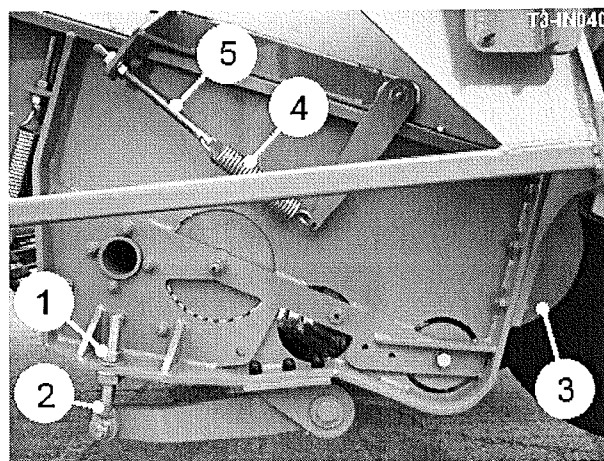

Fig 6
To adjust the angle of the shares loosen the locknuts (item 1, fig 6) on both sides of the machine, and re-position adjuster (item 2, fig 6). Ensure both sides are adjusted evenly by measuring from the tip of the outer shares up to the disc support bridge above. The points of the share should be kept as high as practical whilst still maintaining adequate digging depth. Lowering the points will assist penetration but may increase risk of crop damage. If the soil has been adequately cultivated this should not be necessary. If the pitch is too steep (points lowered) it can greatly increase the loading or bulldozing effect on the share frame, especially when in hard or tough conditions. Regularly check for soil build-up on the share frame (especially in wet conditions) as a pad of soil at this point will create a considerable braking effect on the digger web. Ensure that the share frame is not in contact with the web bars at this point.
The haulm intake rollers (item 3, fig 6) are fitted for two reasons. The primary reason is to draw in loose haulm and trash from the sides of the ridges and feed it onto the digger web, thus preventing it from building up on the leading edges of the web sides or between the centre disc coulters. The second function is to prevent potatoes from rolling out of the front of the digger web between the discs coulters and the web sides. Depending on the width of the digger web and the row width configuration to be lifted, the haulm roller build will vary. The rollers are spring loaded onto the digger web bars. The outer roller assemblies are fitted with tension springs (item 4, fig 6), and are tensioned by the adjusters (item 5, fig 6). The centre rollers (if fitted) are mounted on a spring-loaded arm and are tensioned with a coil spring and threaded adjuster. The scrapers fitted to each roller should be set as near to the roller as possible without fouling it. Alternatively, rubber deflectors may be fitted between the centre disc units.